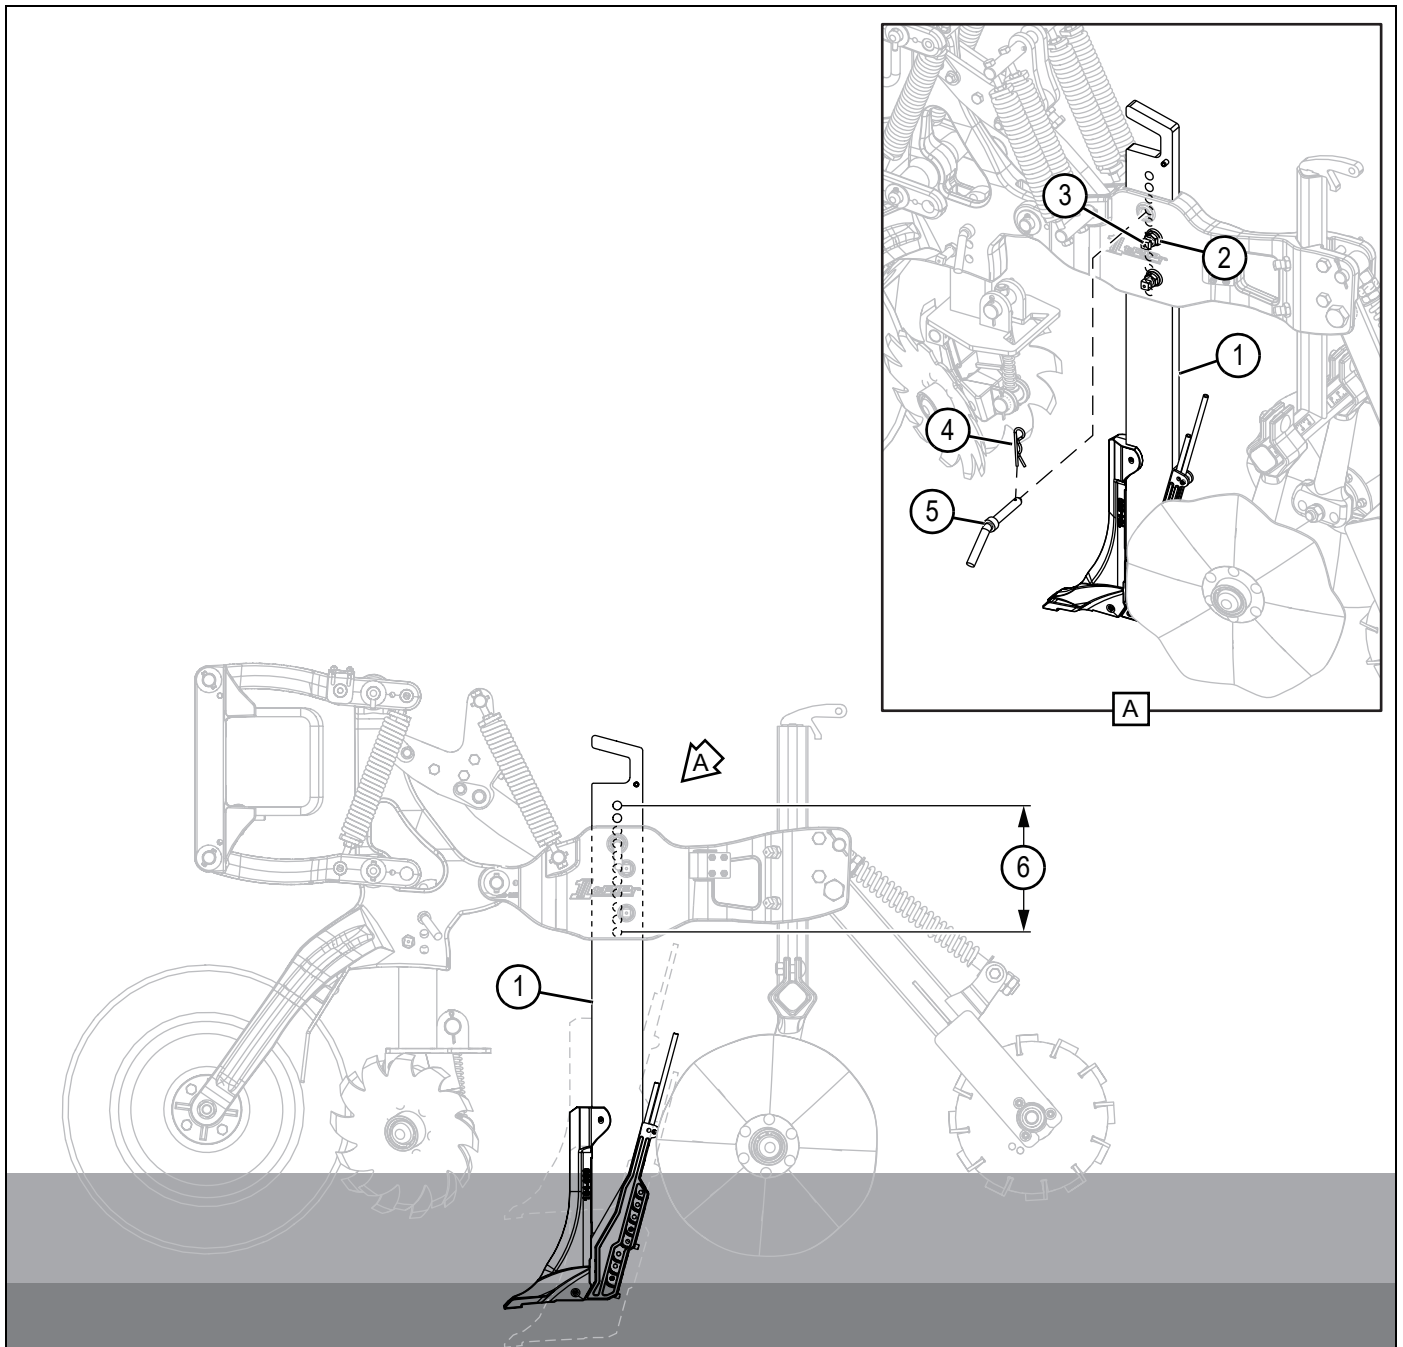

Figure 5-8
Figure 5-8 on page 5-13.
NOTE: *Tillage shank depth setting (6) can be adjusted using the 11 adjustment holes (see Figure 5-8 on page 5-13). The tillage shank adjustment holes are set at 1 in (2.5 cm) increments.*